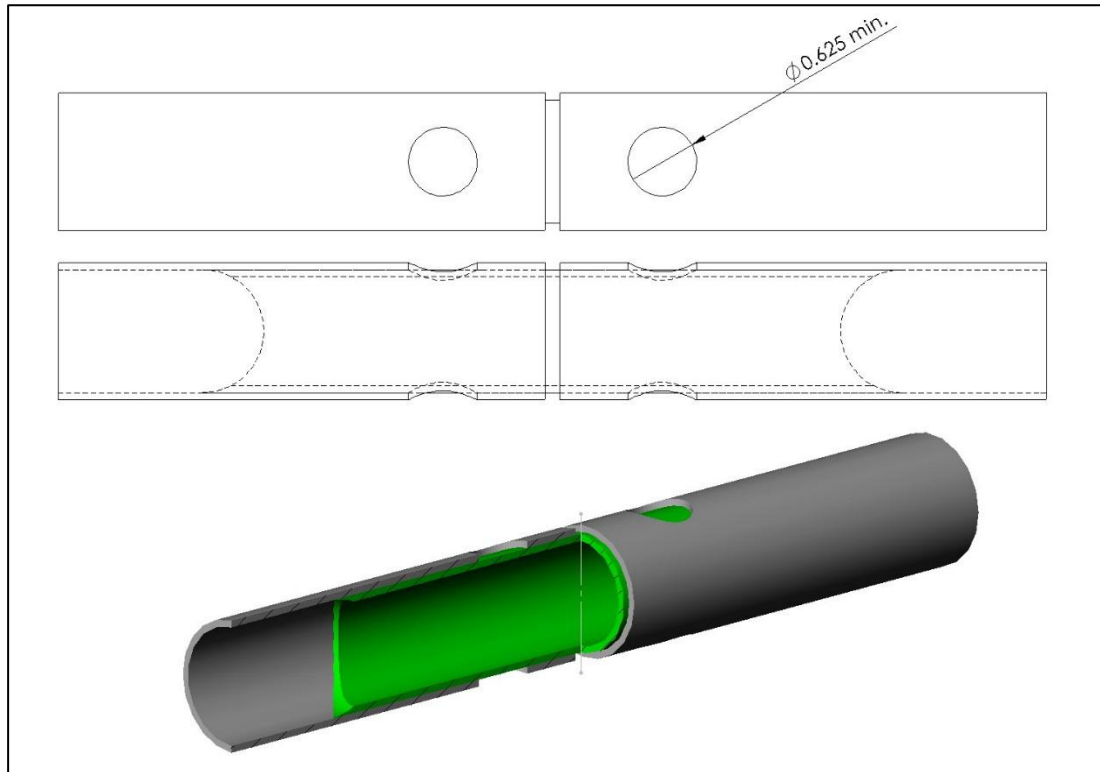

Figure B-22: Roll Cage, Butt Joint Tube Sleeve
The general arrangement of an acceptable sleeved joint is shown in Figure B-22. A butt weld and four (4) rosette welds are required. Two (2) rosette welds are required each tube piece. Rosette welds are to be made in holes of a minimum diameter of 16 mm (0.625 in.).